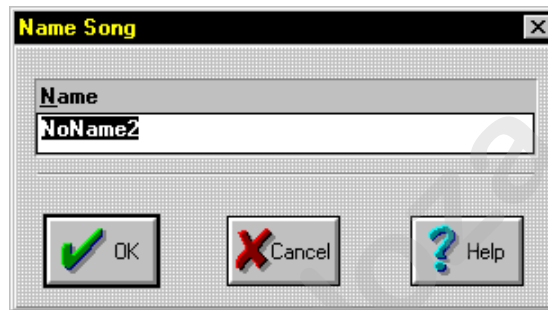

Figure 7.18. Name Song Dialogue Box
2. Press the <NAME> key in the MEMORY group (Figure 7.15). This will bring up the **Name Song** dialogue box. Refer to Figure 7.18. Alternately, select **Name** from the **Memory** drop-down menu.